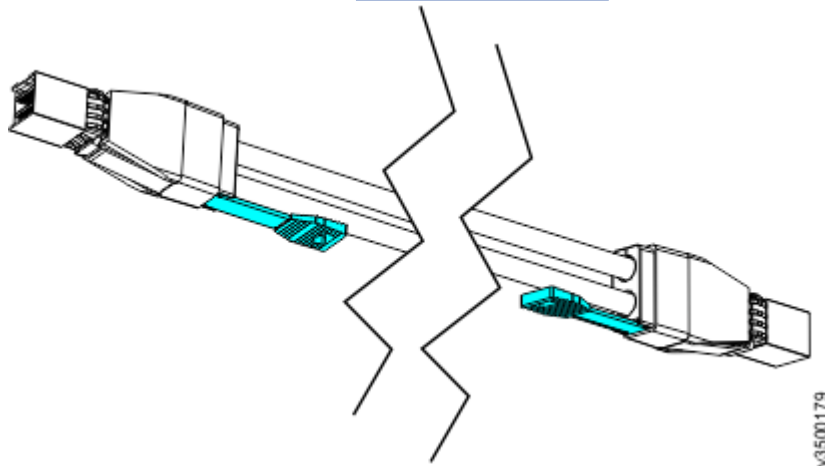

Figure 73. Mini SAS HD to Mini SAS HD cable
- Mini SAS HD to Mini SAS HD (Figure 73 on page 71)